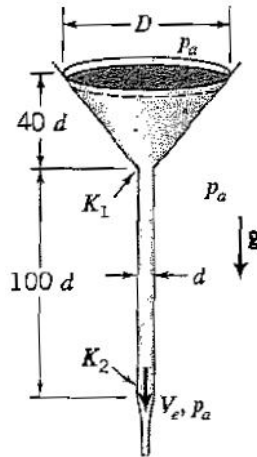

Figure P8.33
8.33 Under the action of gravity, water of density ρ passes steadily through a circular funnel into a vertical pipe of diameter d , and then exits from the pipe, falling freely under gravity, as shown in Figure P8.33. Atmospheric pressure acts everywhere outside the funnel and pipe. The entrance to the pipe has a loss coefficient $K_1 = 0.5$, the pipe has a friction factor $f = 0.01$, and the exit from the pipe has a loss coefficient $K_2 = 1.0$. The kinetic energy coefficient $\alpha = 1$. Find the outlet velocity in terms of g and d . You may assume that $D \gg d$.